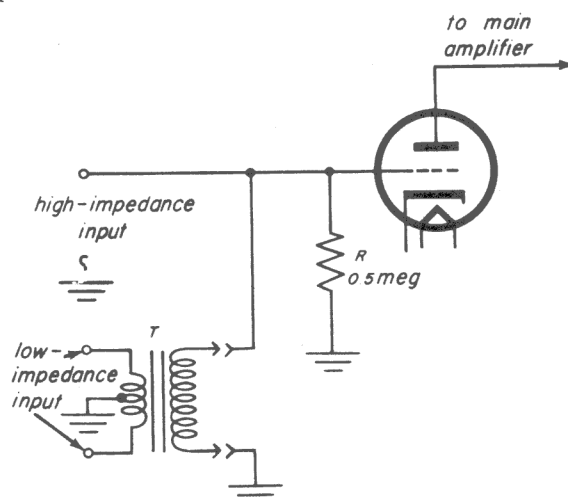

Fig. 27-10
The input circuit is shown in Fig. 27-10. The rated input impedance is normally 0.5 megohm. To obtain a rated input impedance of 200 ohms, it is necessary to plug in the transformer (T). The 0.5-megohm rated input impedance is an actual impedance. It is determined by the resistor, R . The 200-ohm rated impedance is actually greater than 200 ohms. Let us figure out what it actually is. First, we figure out the high-impedance sensitivity. Since the high-impedance channel of this amplifier is identical to the amplifier considered previously, we know the high impedance sensitivity is 0.0028 v. Second, then we figure out the 200-ohm sensitivity as follows: